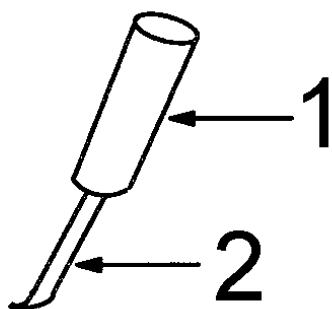

Figure 45 Pick Type Tool
5. Using a pick type tool (Figure 45), be sure caliper piston seal groove and piston boot groove in caliper are free of all foreign materials. Use compressed air to clean out and dry grooves.